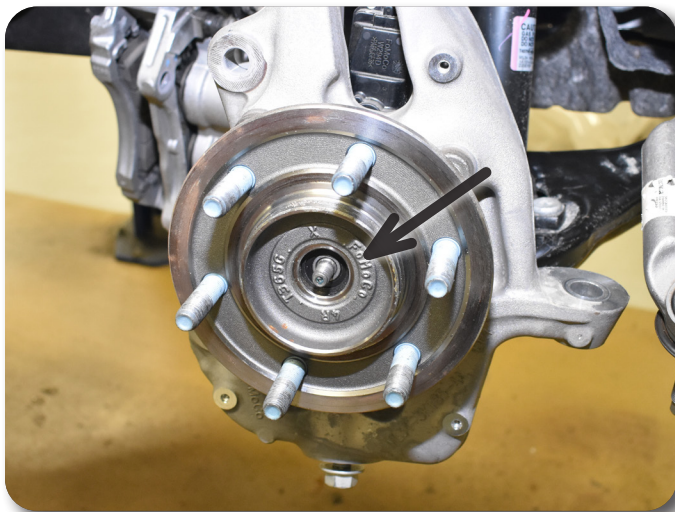

Figure 5
9. Remove the CV retaining nut (which was covered by the dust cap). **Figure 5**